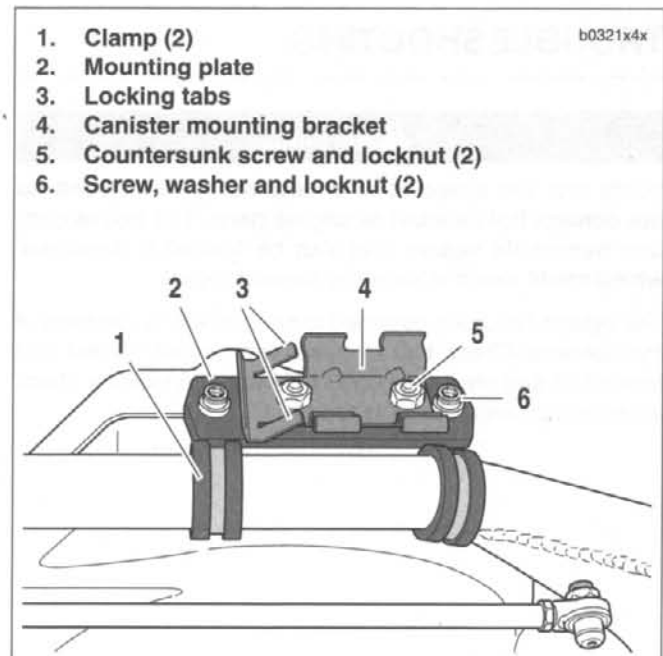

Figure 4-112. Carbon Canister Mounting
3. See Figure 4-112. Depress both locking tabs (3) on the canister mounting bracket (4). Slide canister towards the front wheel until it disengages from the mounting bracket and remove.
4. Remove screws, washers and locknuts (6) to detach mounting plate (2) from clamps (1).
5. Remove countersunk screws and locknuts (5) to separate bracket (4) from mounting plate (2).
1. See Figure 4-112. Install canister mounting bracket (4) on mounting plate (2) with countersunk screws and lock-nuts (5).
2. Install mounting plate assembly on frame by attaching mounting clamps (1) using screws, washers and lock-nuts (6). Tighten to 6-8 ft-lbs (8.1-10.8 Nm).
3. Depress locking tabs (3) and slide canister into locked position on canister mounting bracket (4). Locking tabs (3) must engage canister; bend tabs outward somewhat if canister is not held securely.